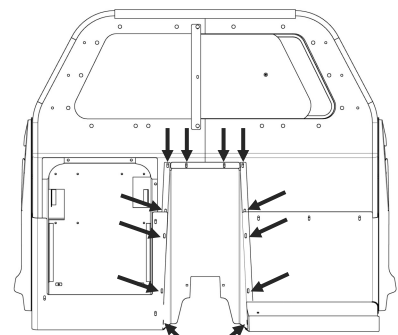

Figure 7c
- G. Slide the Recess Panel forward and align all (12) holes with their respective holes in the partition and lower extension panels (Fig 7c).
- H. Loosely install a carriage bolt [3X36] with whiz nut [3X16Z] into each of the (12) holes identified in the previous step. Install the fasteners such that the smooth head of the carriage bolt is facing the rear of the vehicle.